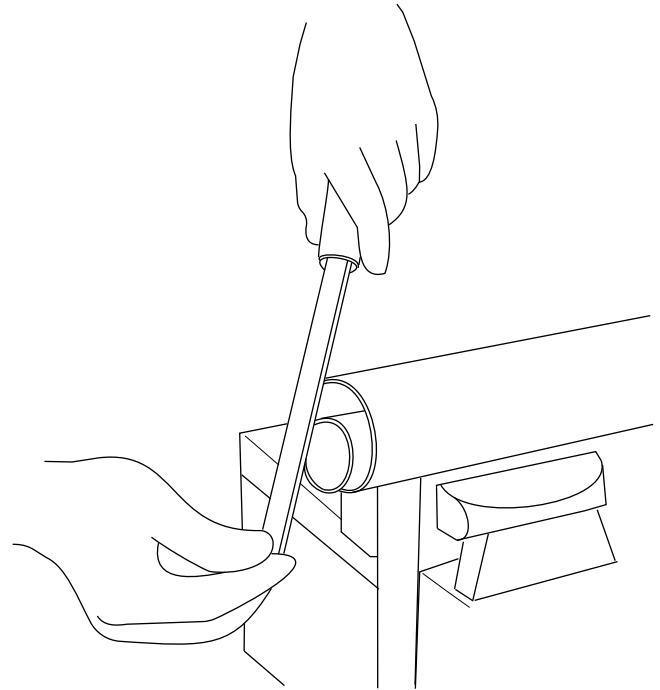

Figure 14
10. Raise the attachment to the position where the traction-unit PTO output shaft and gearbox input shaft are furthest apart (Figure 14).
11. Hold the driveshaft sections parallel to each other and check to ensure that they overlap 150 mm (6 inches) or more (Figure 14).